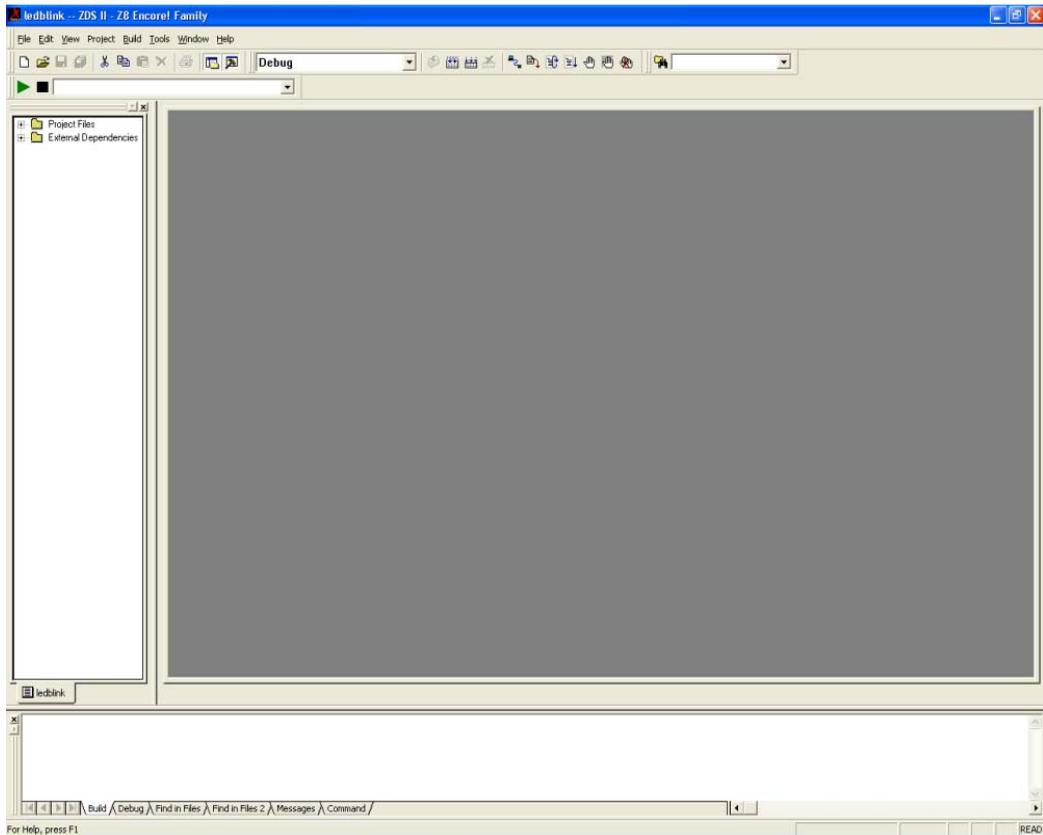

Figure 3. ZDSII Program Screen
5. Select the ledblink.zdsproj file and click **Open**. The initial ZDSII program screen is displayed (see Figure 3).